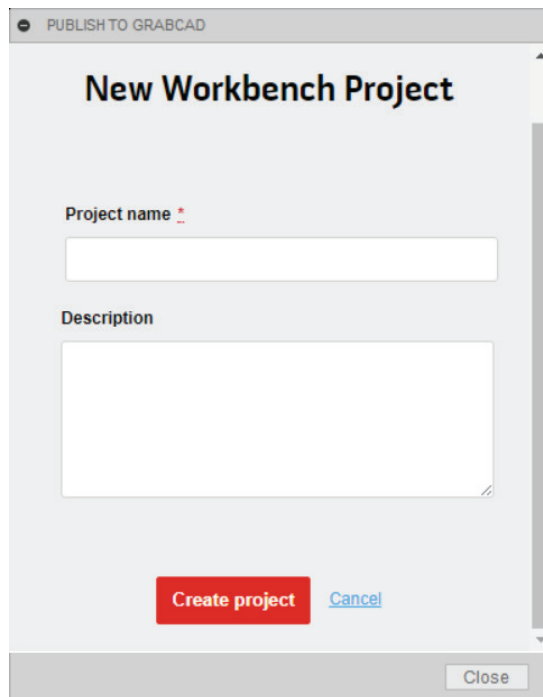

Figure-35. New Workbench Project details
- Click on the **New Library Model** link button if you want to save model in community. If you want to create a workbench model then click on the **Workbench** tab in the dialog box and then click on the **New Workbench Project** link button. Based on your selection, the respective information will be displayed in the dialog box; refer to Figure-35.